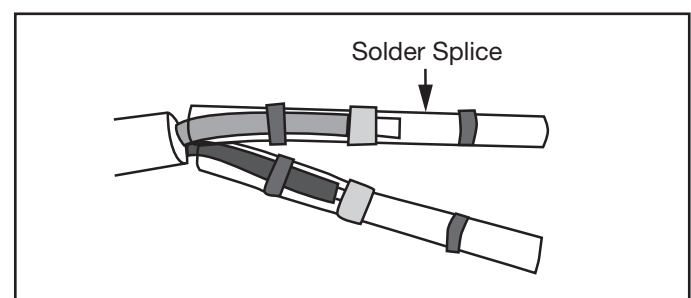

Figure 8. Fit Solder Splice to Wire Ends
5. Fit one of the solder splices to each of the two wires of the old cable. See Figure 8.